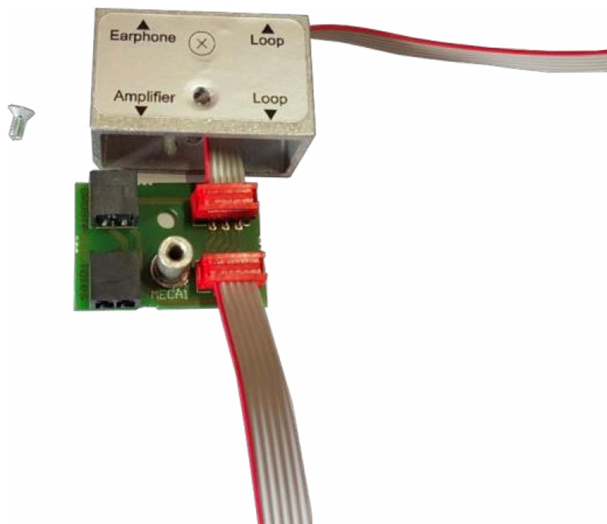

Figure 2
- Plug the 50-70 cm connecting cable to the "Amplifier" connector of the adaptator and to the "Loop" terminal block to the amplifier as shown on figure 2.